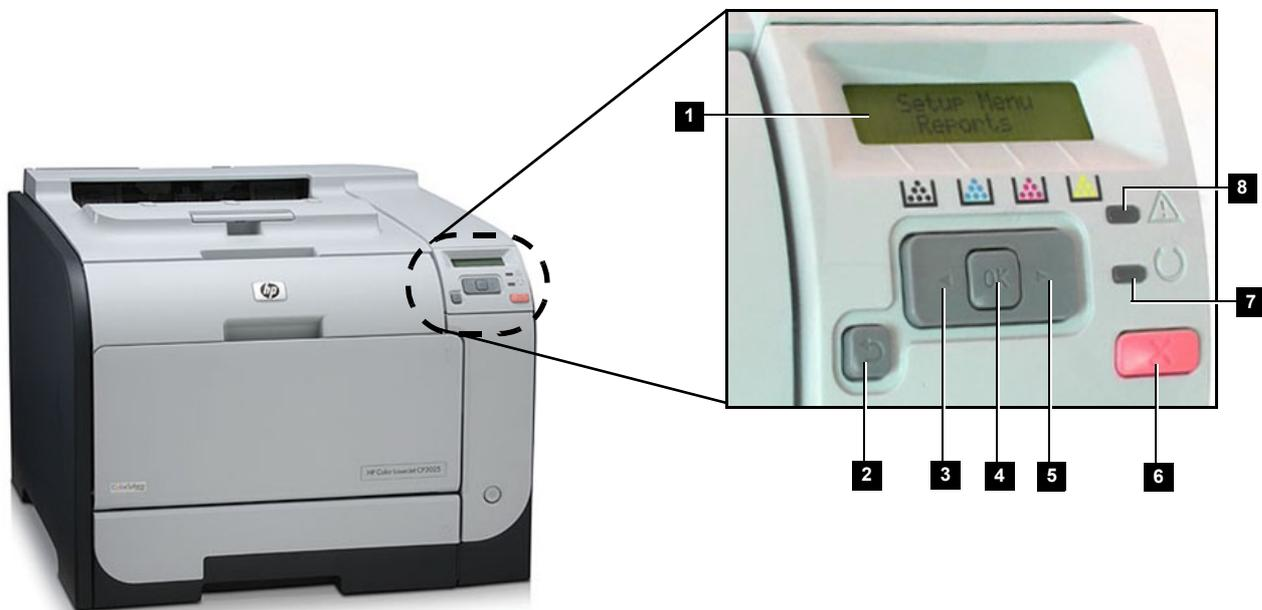

Figure 3-22 Printer Control Panel
The settings for the HP Laserjet M451 Color printer are controlled via the printer's control panel located as shown in Figure 3-22.
Table 3-14 Printer Control Panel - Legend to Figure 3-22
- 1.) On the printer’s control panel, press **OK** (button 4) in Figure 3-22.